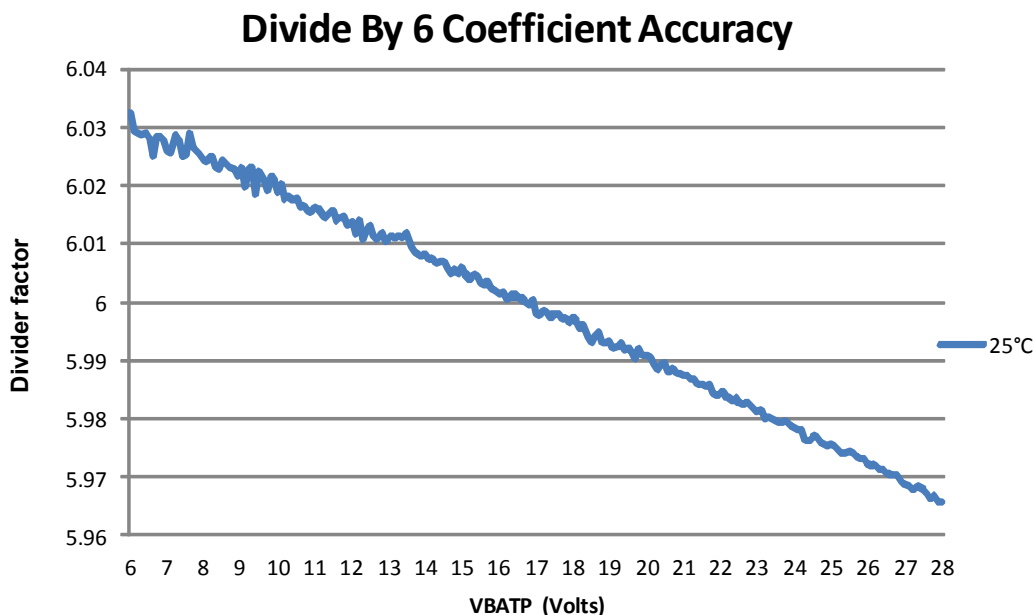

Figure 4. Divide by 6 coefficient accuracy
21. Calibration of divider ratio can be done at $V_{BAT} = 12\text{ V}$, $25\text{ }^\circ\text{C}$ to achieve a higher accuracy. See Figure 4 for AMUX offset linearity waveform through the operating voltage range.